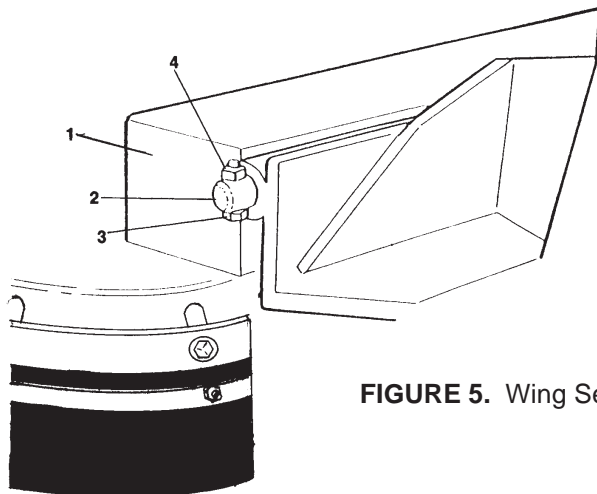

FIGURE 5. Wing Sections Attachments
Lock the Wing Sections in place with the Hinge Pins. Insert 5/16 x 1-1/2 bolt (3) and locknut (4) at the end of each of the Hinge Pins and tighten securely. **FIGURE 5.**